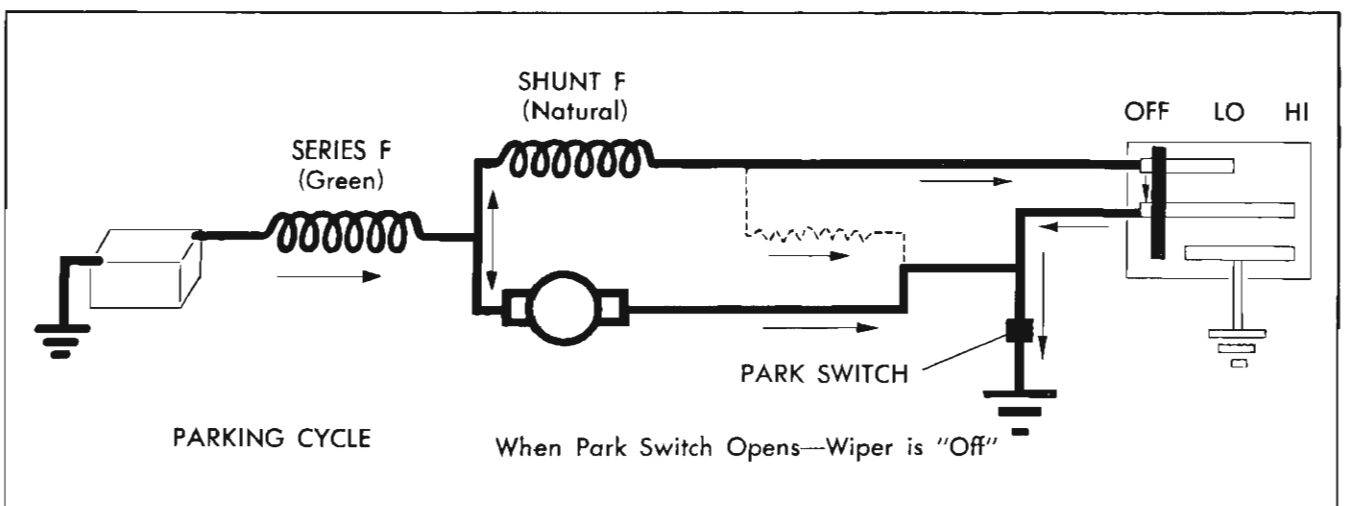

Fig. 11-74 Parking Cycle
**PARKING CIRCUIT—Figure 11-74**